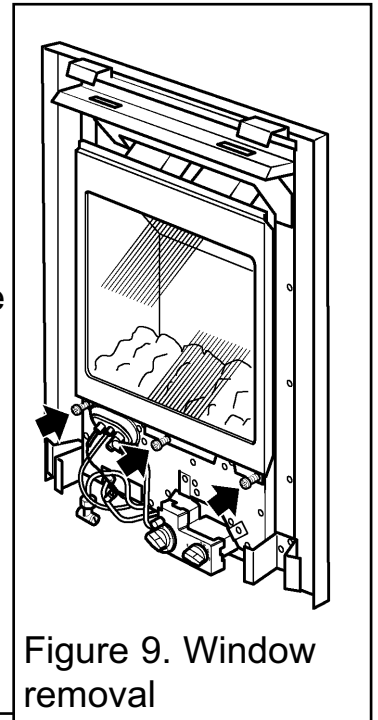

Figure 9. Window removal
- Unscrew and remove the three spring loaded window fixing screws and bushes from the base of the window frame (See figure 9). Keep the screws and bushes in a safe place.